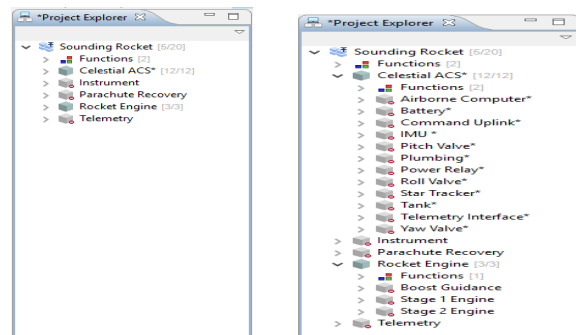

Figure B4: System Hierarchy Skeleton (Image on Left) and Completed Hierarchy with underlying components (Image on Right)
- 1) Use the *Project Explorer* to create the system- and subsystem-level hierarchy or “skeleton” of the model (Figure B4). This is done by simply right-clicking on the “New Project” created earlier and selecting “New” Subsystem to add each subsystem to be modeled. Note: Parts or Components can also be added using this method, but these are best added automatically during the *Functional Block Diagram* creation so the *Palette* or user library constructs for failure/flows can be leveraged and customized.